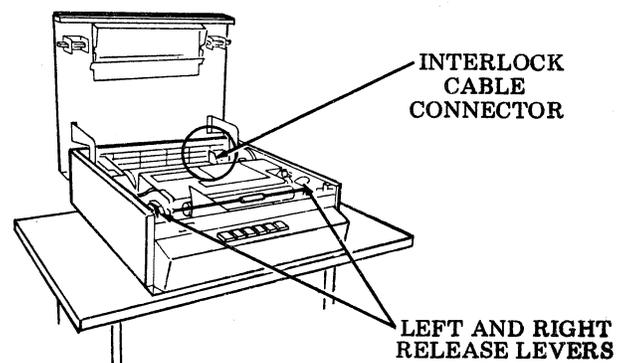

Fig. 4—Printer in Cabinet
4.04 Remove printer from cabinet (Fig. 4).